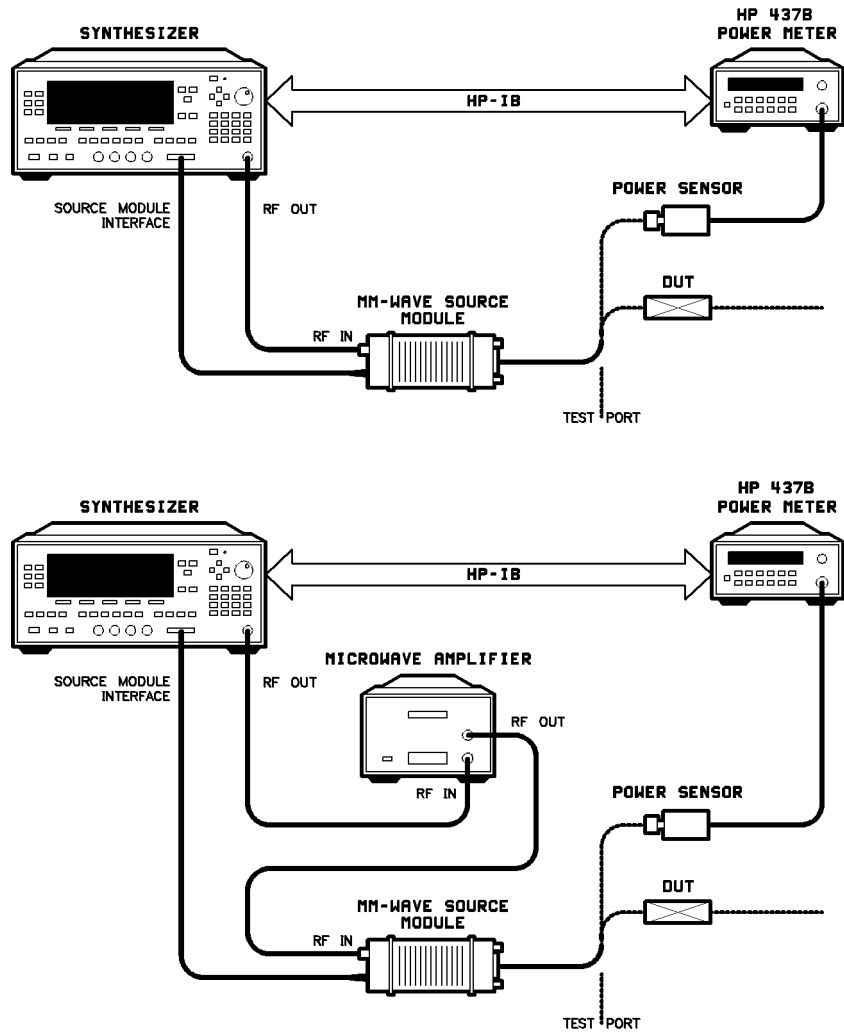

Figure 1-20.
1. The equipment setup shown in Figure 1-20 assumes that you have followed the steps necessary to correctly level the configuration. If you have questions about external leveling refer to earlier paragraphs titled, “Externally Leveling the Synthesizer.”